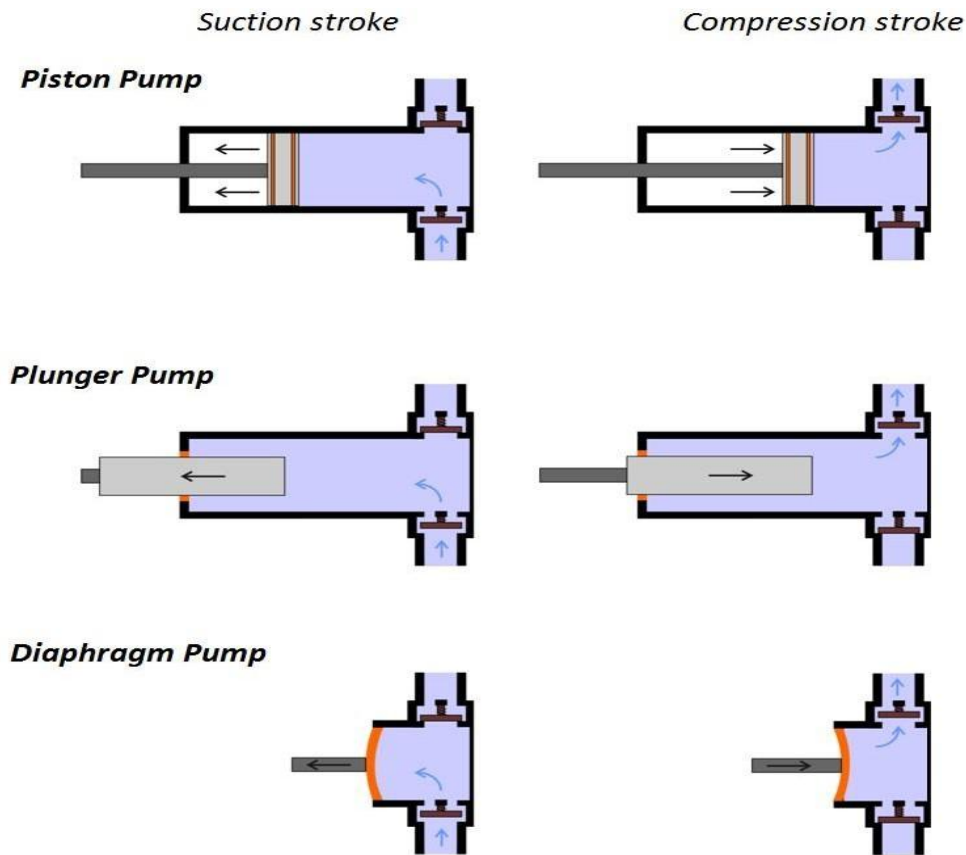

Figure 1. Basic reciprocating pump designs
- A Reciprocating Positive Displacement pump works by the repeated back-and-forth movement (strokes) of either a piston, plunger or diaphragm (Figure 1). These cycles are called reciprocation.